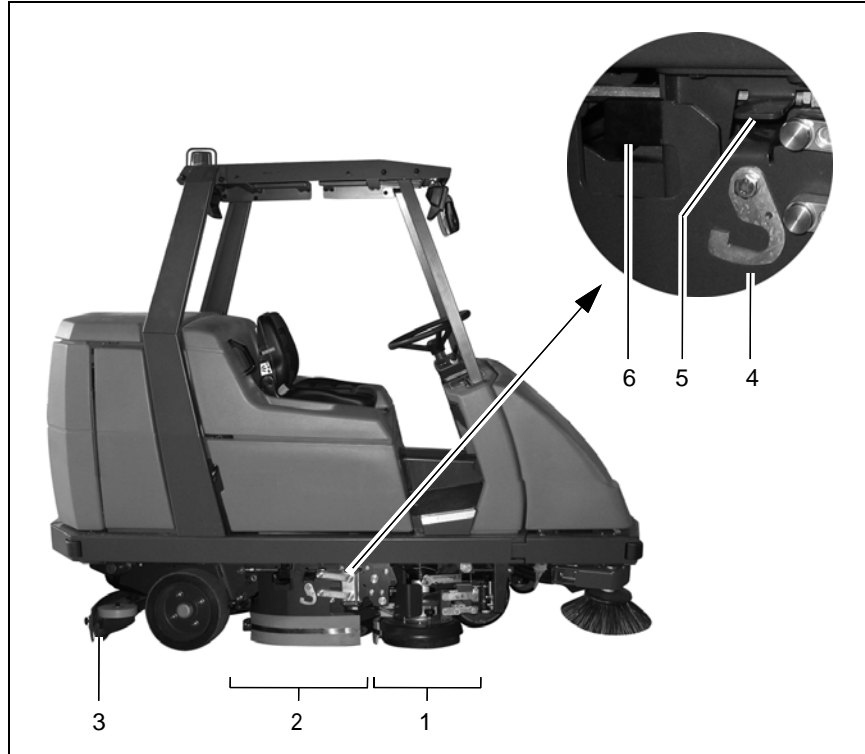

Fig. 13
3.1.1 Scrubbing unit (Fig. 13/2)
(Fig. 13/2)
The deflectors can be raised, if necessary. This is the case for basic cleaning, for example, where the floor only needs to be scrubbed when wet and the solution is not vacuumed up but allowed to soak in instead. To raise the deflector, take hold of the grip (Fig. 13/6), raise it and hook the locking hooks (Fig. 13/4) in the recesses in the grip above it (Fig. 13/5). Proceed in the same way on the other side of the side of the vehicle.
Side scrubbing unit (Fig. 13/1)
3.1.2 Squeegee (Fig. 13/3)